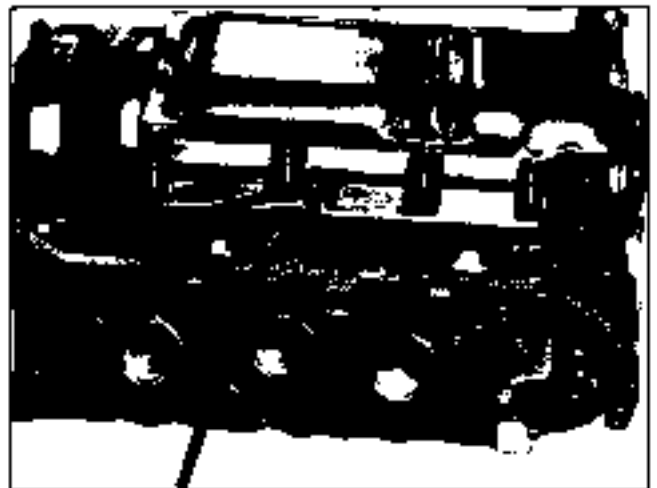

Fig. 6-108 Engine Oil Pan Baffle and Dipstick Tube
2. Remove oil pump and baffle (Fig. 6-108).